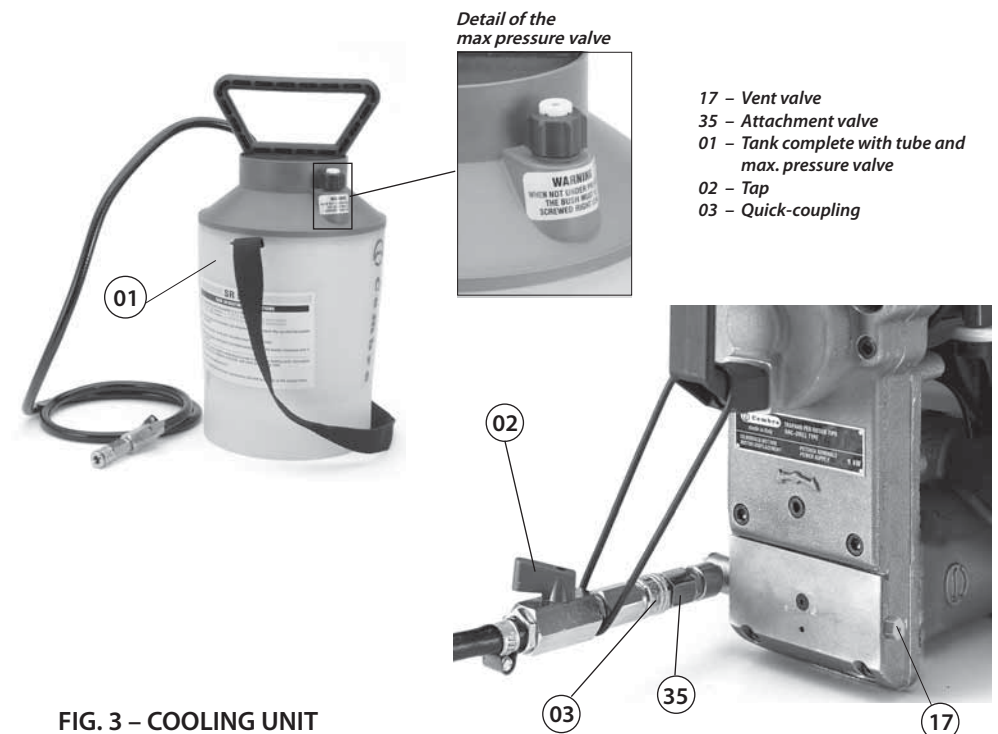

FIG. 3 – COOLING UNIT
- The rail drill is equipped with the cooling attachment valve (35) and a vent valve (17) which are located as shown (Fig. 3).